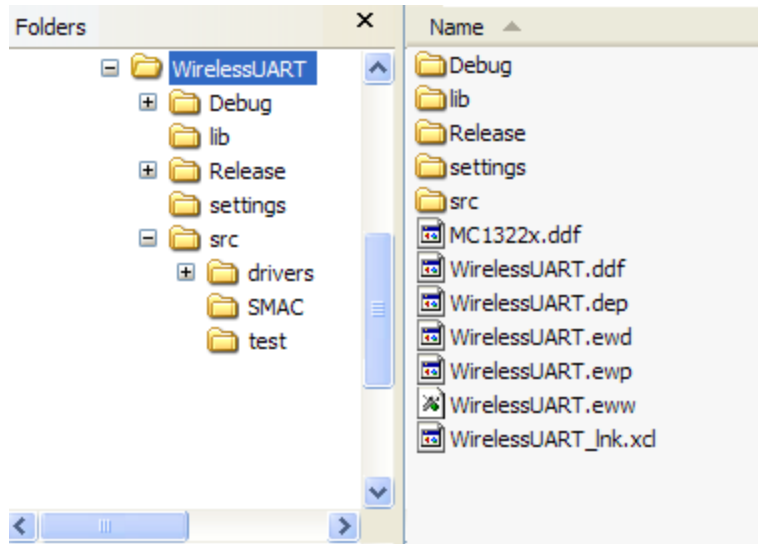

Figure 1-1. Example Project Folder Structure
**Figure 1-1** shows the folder structure of a typical project generated using MC1322x SMAC Codebase for BeeKit.